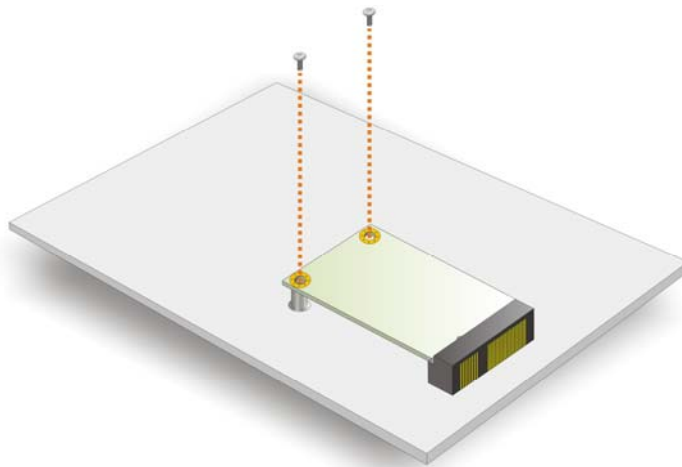

Figure 4-10: Secure the mSATA Card
Step 4: Secure the mSATA card. Secure the mSATA card with the retention screws previously removed (Figure 4-10).